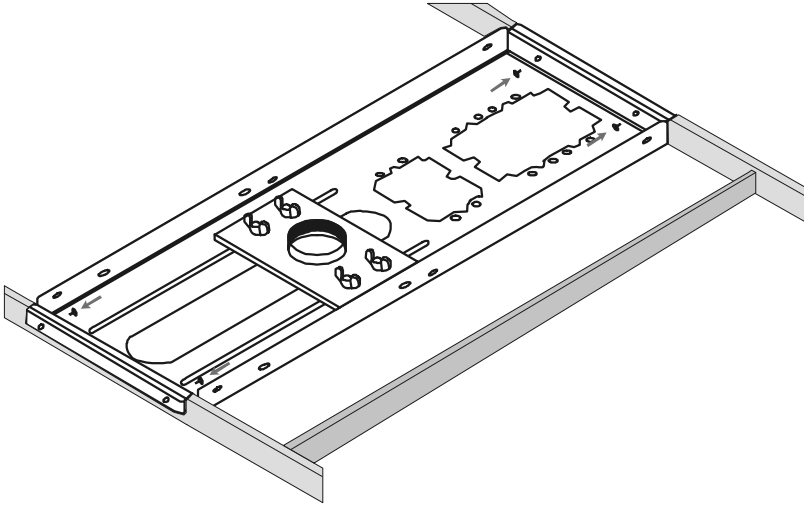

Figure 21: Securing Bracket Ends
2. Secure the tray bracket ends to the rails¹ of the ceiling framework using four screws (see Figure 21).